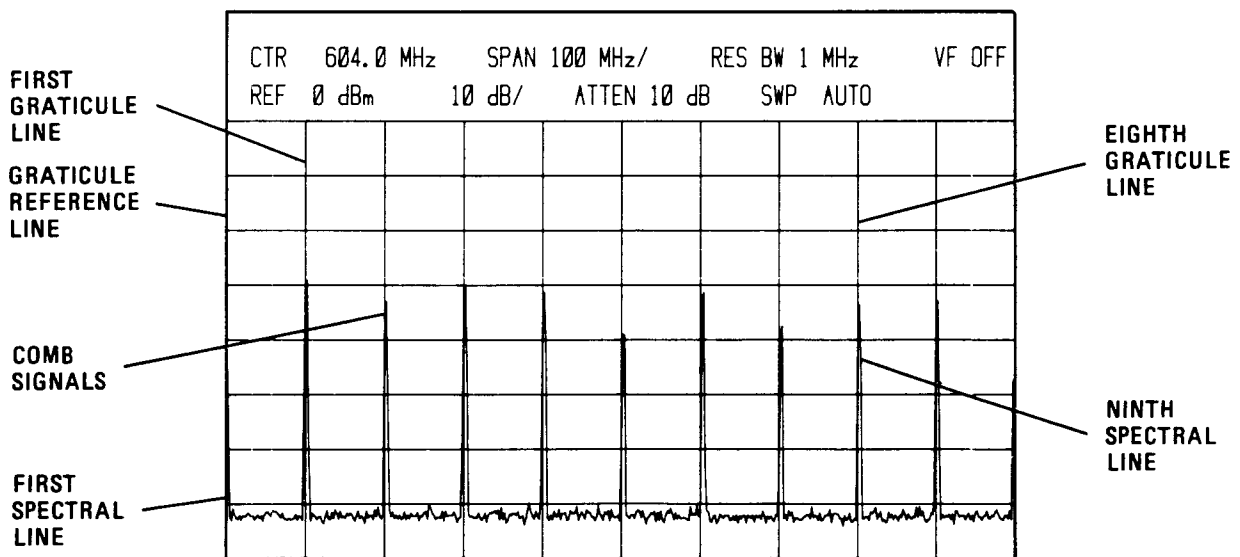

Figure 2-5. Span Width Accuracy Measurement
- Note position of ninth spectral line (comb tooth). It must be on eighth graticule line  $\pm 0.4$  division. (See Figure 2-5.)